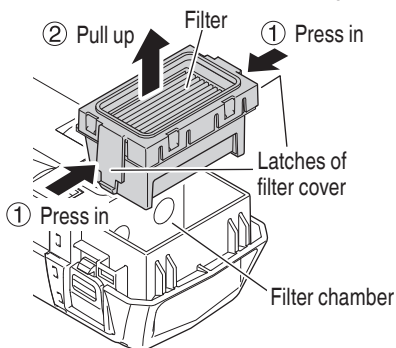

Fig. 21
- (3) Press in the 2 latches on the sides of the filter cover, then pull up and remove the filter set. (Fig. 21)